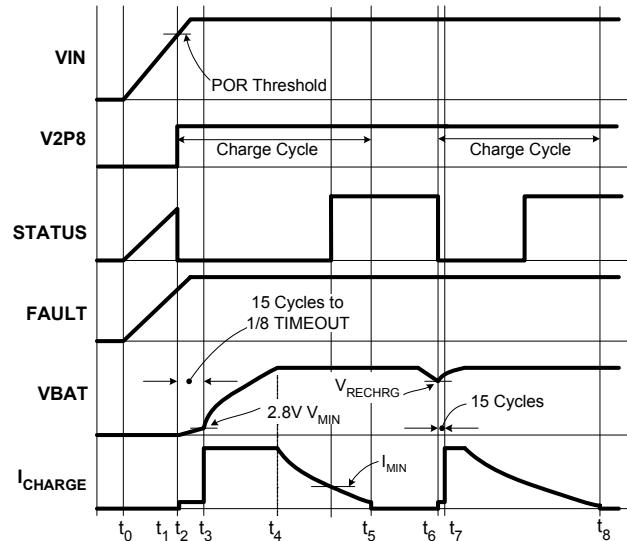

FIGURE 19. OPERATION WAVEFORMS
Figure 19 illustrates the typical signal waveforms for the linear charger from the power-up to a recharge cycle. More detailed Applications Information is given in the following.
The two indication pins, STATUS and FAULT, indicate a LOW and a HIGH logic signal respectively. Figure 19 illustrates the start-up of the charger between t_0 to t_2 .
A charge cycle consists of three charge modes: trickle mode, constant current (CC) mode, and constant voltage (CV) mode. The charge cycle always starts with the trickle mode until the battery voltage stays above V_{MIN} (2.8V typical) for 15 consecutive cycles of the internal oscillator. If the battery voltage drops below V_{MIN} during the 15 cycles, the 15-cycle counter is reset and the charger stays in the trickle mode. The charger moves to the CC mode after verifying the battery voltage. As the battery-pack terminal voltage rises to the final charge voltage V_{CH} , the CV mode begins. The terminal voltage is regulated at the constant V_{CH} in the CV mode and the charge current is expected to decline. After the charge current drops below I_{MIN} (programmable for the 4x4 and 5x5 package and programmed to 1/10 of I_{REF} for the 3x3 package; see "End-of-Charge (EOC) Current" on page 13 for more detail), the ISL6292 indicates the end-of-charge (EOC) with the STATUS pin. The charging actually does not terminate until the internal timer completes its length of TIMEOUT in order to bring the battery to its full capacity. Signals in a charge cycle are illustrated in Figure 19 between points t_2 to t_5 .
After a charge cycle completes, charging is prohibited until the battery voltage drops to a recharge threshold, V_{RECHRG} (see "Electrical Specifications" on page 3). Then a new charge cycle starts at point t_6 and ends at point t_8 , as shown in Figure 19. The safety timer is reset at t_6 .
The trickle mode charge has a time limit of 1/8 TIMEOUT. If the battery voltage does not reach V_{MIN} within this limit, a TIMEOUT fault is issued and the charger latches up. The charger stays in trickle mode for at least 15 cycles of the internal oscillator and, at most, 1/8 of TIMEOUT, as shown in Figure 19.
The end-of-charge current I_{MIN} sets the level at which the charger starts to indicate the end of the charge with the STATUS pin, as shown in Figure 19. The charger actually does not terminate charging until the end of the TIMEOUT, as described in "Total Charge Time" on page 12. The I_{MIN} is set in two ways, by connecting a resistor between the IMIN pin and ground, or by connecting the IMIN pin to the V2P8 pin. When programming with the resistor, the I_{MIN} is set in Equation 6.